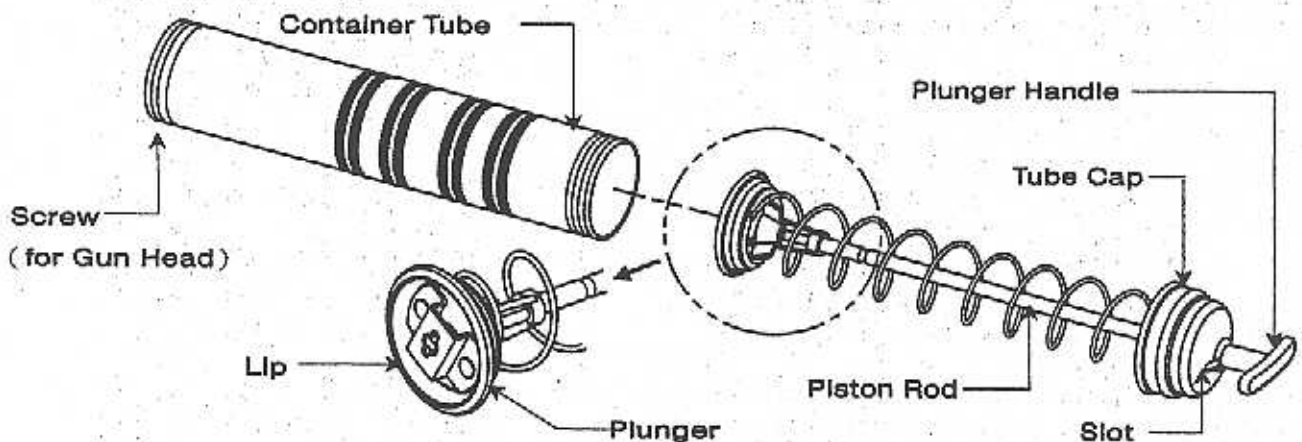

Fig.5
- Unscrew and dis-assemble tube cap from the container tube as Fig.5